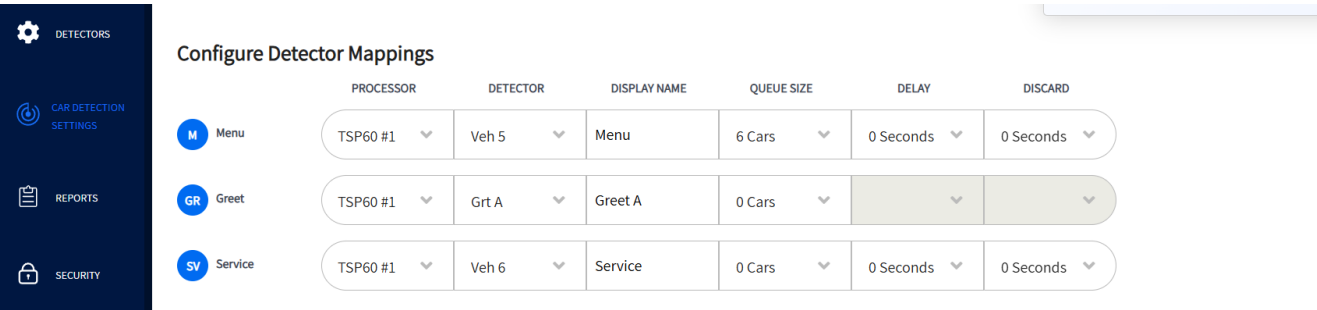

Fig. 7.4
The **Configure Detector Mappings** section allows you to map your detectors to a Vehicle Number (Veh #). This Veh # correlates to the Veh # on the TSP, so you must map accordingly to match the actual connection. You can assign a descriptive name in the DISPLAY NAME field and choose your QUEUE SIZE from the drop-down list, which is the number of vehicles that can fit between this detection point and the next. For example, in Fig. 7.4, “Menu (M),” the second detector in Preview is mapped to Veh 5, and assigned the display name “Menu,” and the queue size selected is “6 Cars.” This indicates that six vehicles can fit between this detection point and the next detection point (Service). “Service (SV),” the third detector in Preview is mapped to Veh 6 and assigned the display name Service.